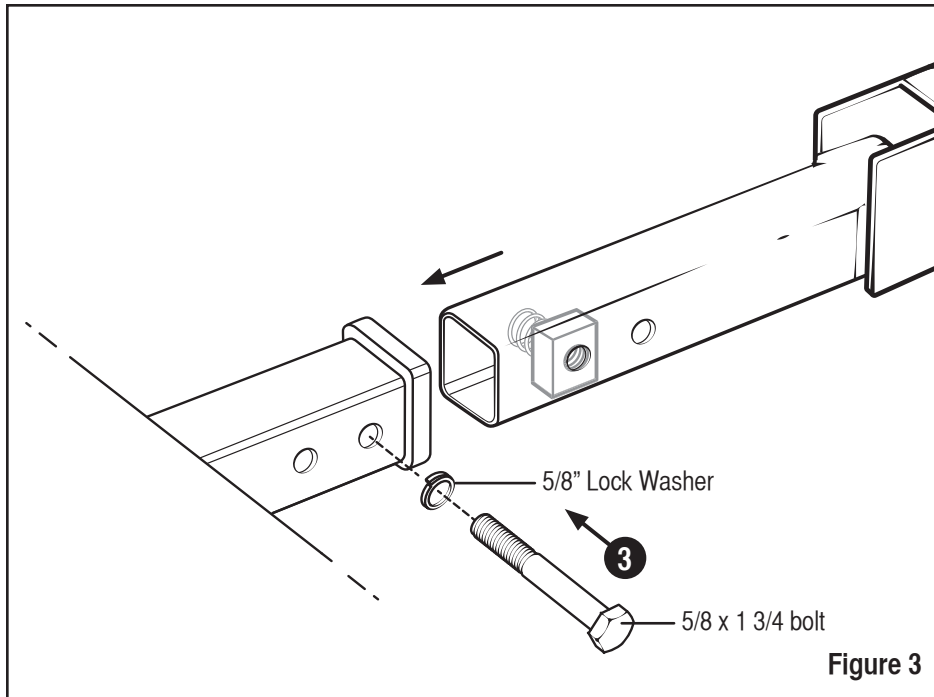

Figure 3
3. Insert the 5/8" bolt and lock washer into the Spring Nut and screw tight (**Figure 3**). The bolt should be tightened between 30 and 60 ft-lb of torque (e.g., similar to tightening a lug nut on a car wheel).